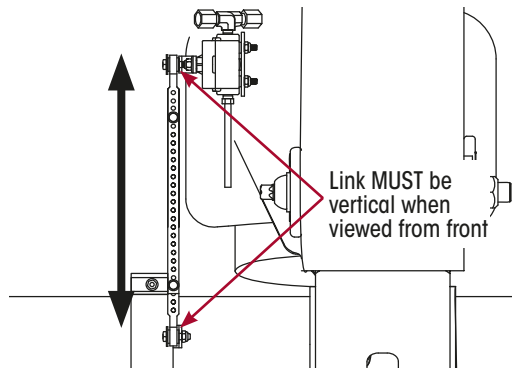

Figure 191: Ensure link is vertical when viewed from front
18. Ensure the link is positioned vertically when viewed from front. If using band clamp, tighten without changing bracket position to 80 Nm for 5" axle or 45 Nm for 5.75" axle. Refer Figure 191.